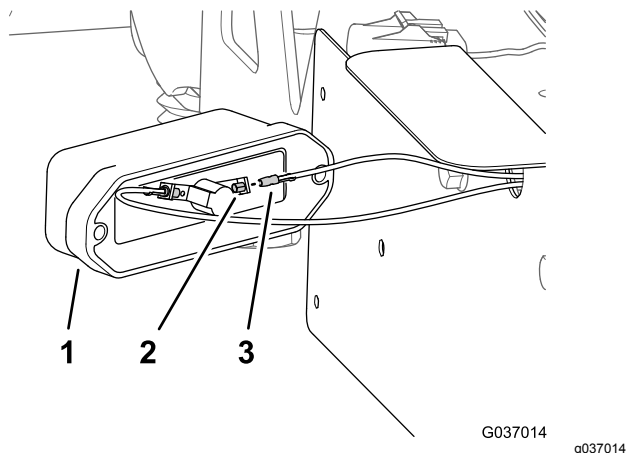

Figure 54
1. Insert the 2 bullet connectors labeled LICENSE LIGHT into the 2 sockets of the license-plate light (Figure 54).